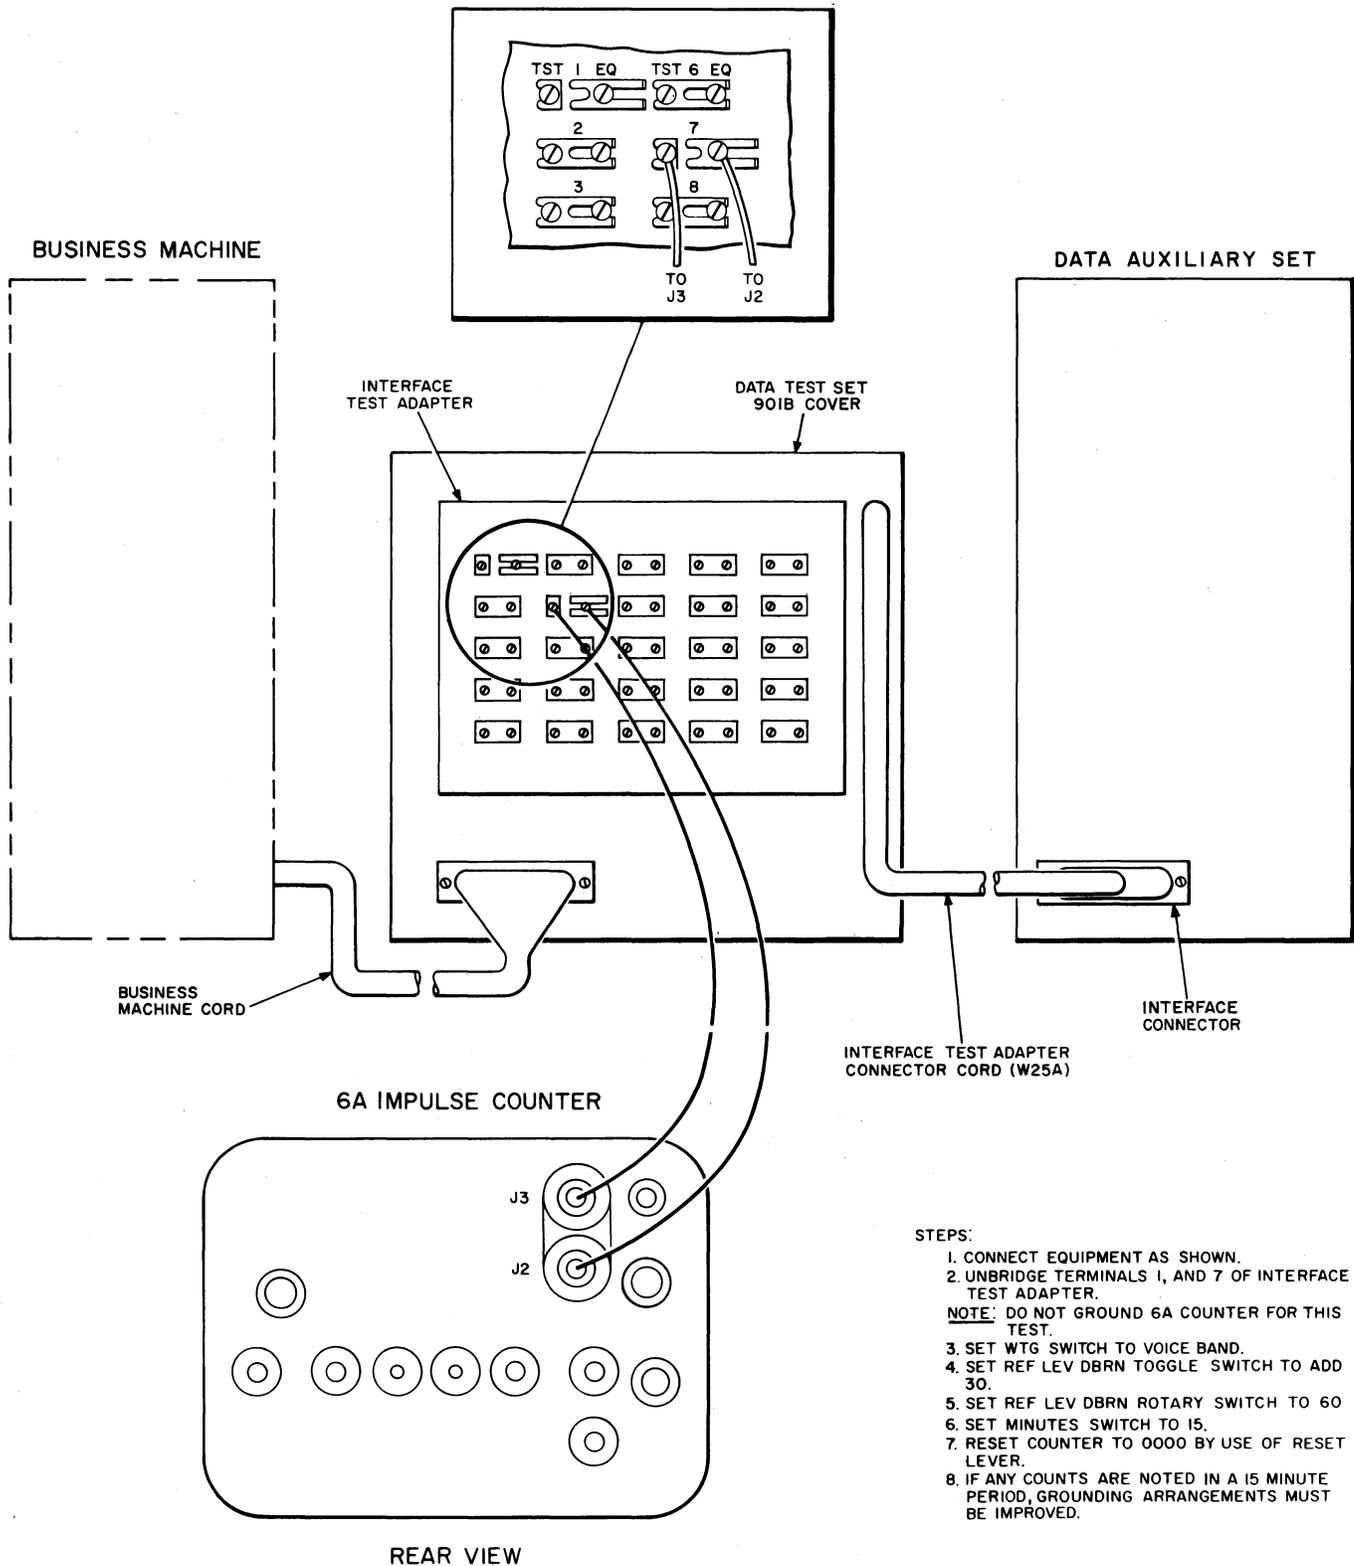

Fig. 1 — 6A Impulse Counter Test
2.04 When required, measure the noise between the DAS ground and the business machine ground using a 6A Impulse Counter and a Interface Test Adapter (cover of Data Test Set 901B) as shown in Fig. 1.